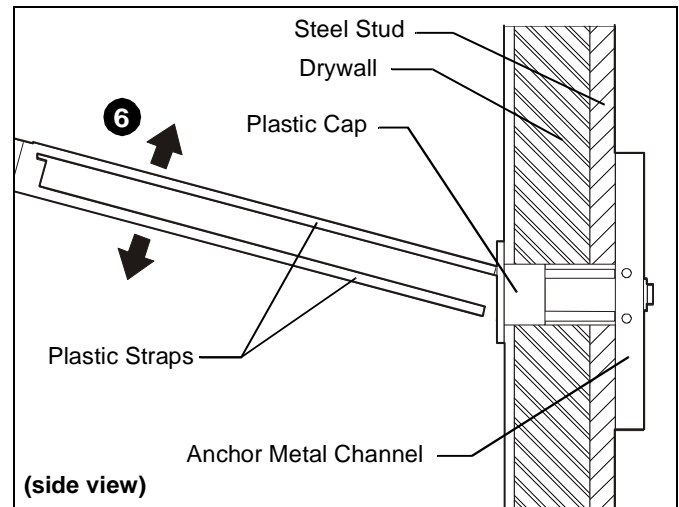

Figure 18
6. Snap off plastic straps on anchor at wall by pushing side to side, snapping off straps level with flange of plastic cap. (See Figure 18)